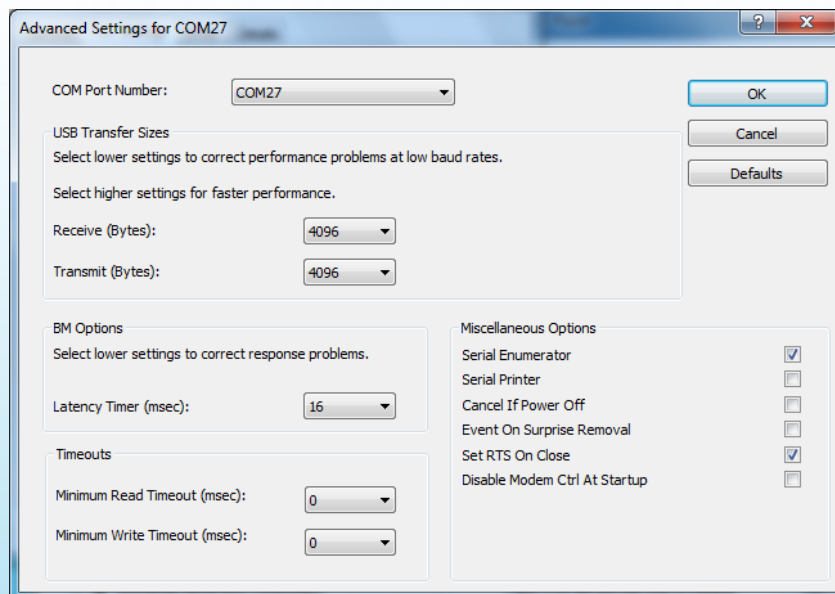

Figure 3-7 Advanced Port Settings: Select Set RTS On Close
- V. Double-click on **each** of these *USB Serial Port* entries and, under the *Port Settings* tab, click on *Advanced...* In the *Miscellaneous Options* at the bottom right-hand side of the window, ensure that *Set RTS On Close* is ticked, as shown in Figure 3-7.